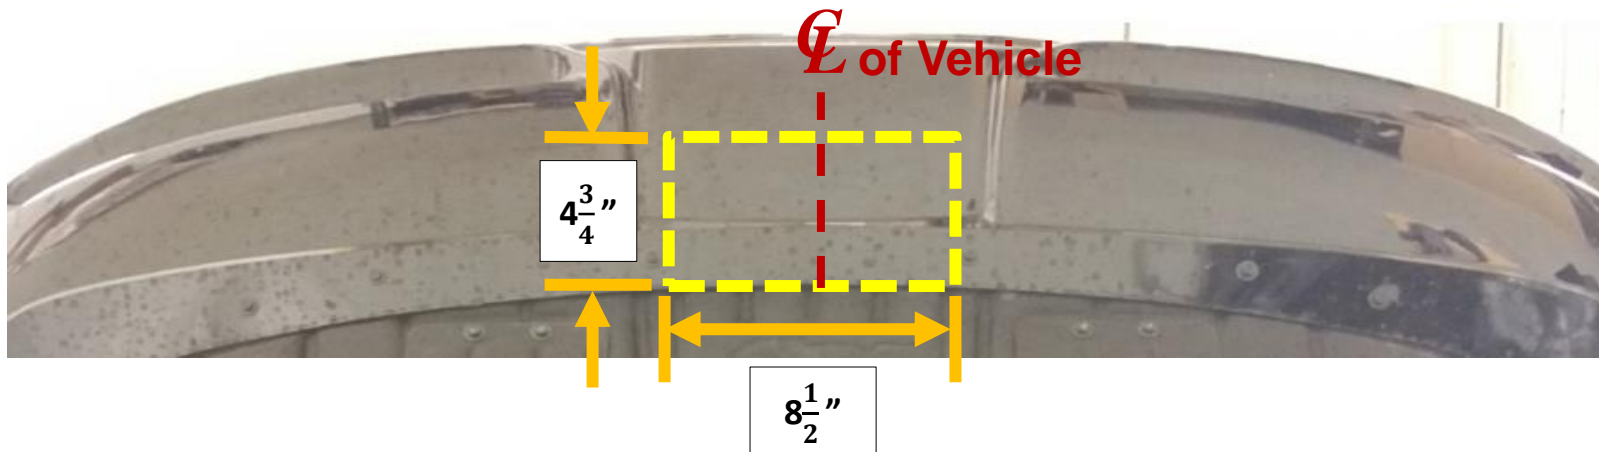

Figure 3
1. Remove bottom cover - Using a 10 mm socket and flat head screwdriver remove (16) bolts and (4) rivets respectively from the bottom cover. Remove the cover and keep for reinstallation.
3. **Trim lower fascia** – Using a tape measure, marker, and utility knife, measure, mark, and trim the lower fascia as shown in **Figure 3**.